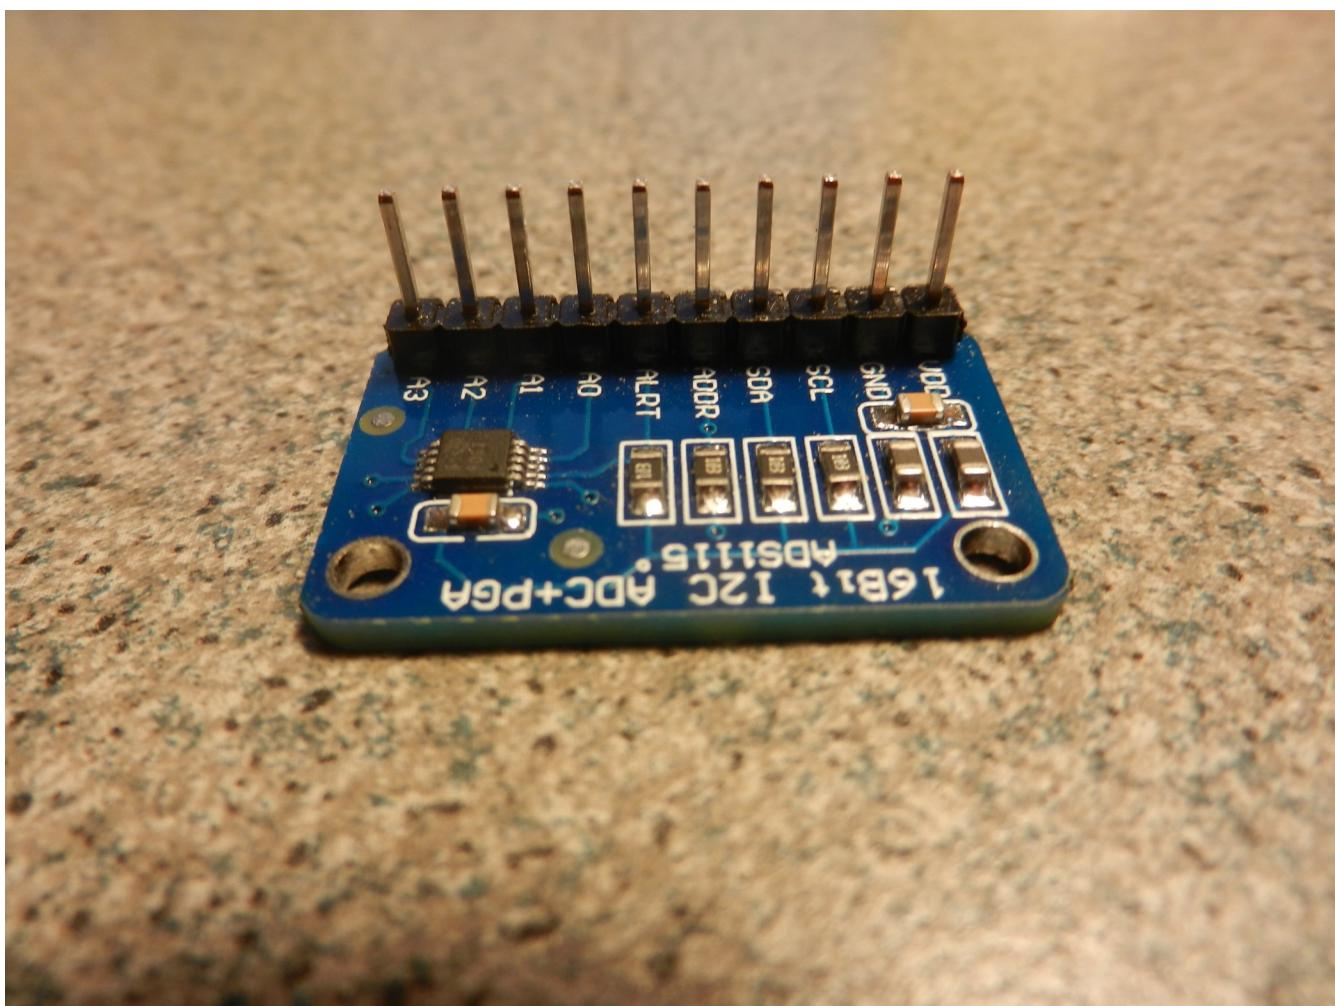

Figure 14, ADS1115 board
1. Not all ADS1115 boards have the same footprint or pinout. These directions are for a board that matches the one shown in figure 14. If your board is different then you will need to figure out how to mount it and may have to change the wiring.